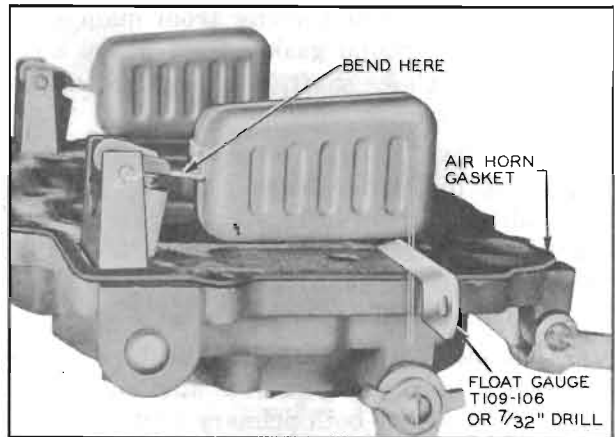

Figure 3-52—Checking Float Level
10. *Adjust Float Level.* With air horn inverted and air horn gasket in place, check clearance between each float (at outer end) and air horn gasket using Float Gauge T109-106 ($\frac{7}{32}$ ") or a $\frac{7}{32}$ " drill. See figure 3-52. To adjust, bend float lever. After any adjustment, recheck float alignment.